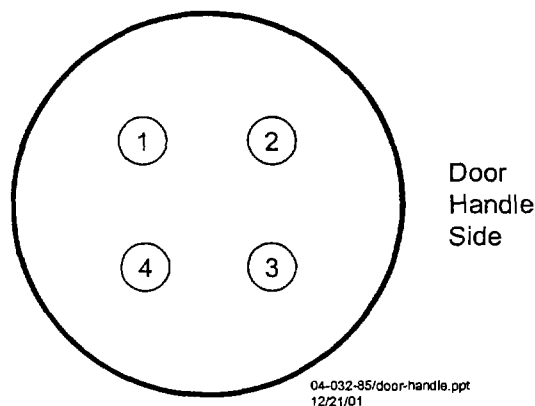

Figure 4-1. High Voltage Flange Exterior View
**Maintain numerical sequence of 50-foot detonator cables with numerical sequence of CDU module (CH1 through CH4). (See Figure 4-1.)**
- 4.7 **ATTACH** four 50-foot detonator cables to EXTERIOR DETONATOR JACK in sequence (CH1 through CH4), as shown in Figure 4-1.